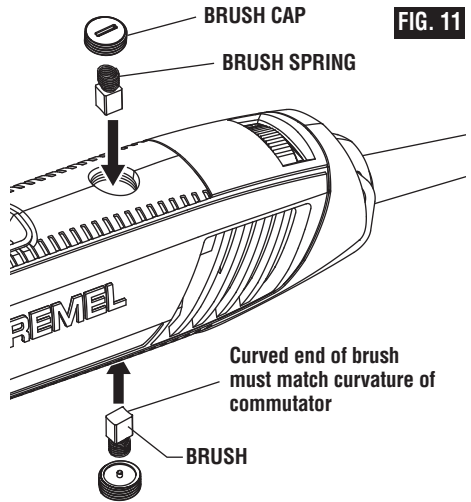

FIG. 11
- Remove the brushes from the tool by pulling on the spring that is attached to the carbon brush. If the brush is less than 1/8" long and the end surface of the brush that contacts the commutator is rough and/or pitted, they should be replaced. Check both brushes (Fig. 11).